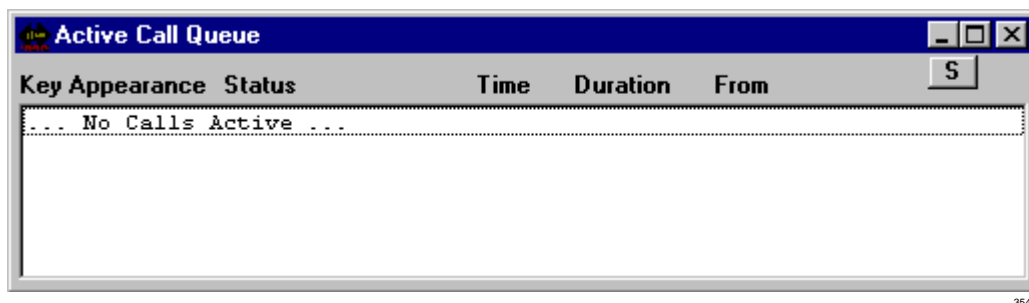

Figure 13-13 Active Call Screen
- ◆ Show Calls displays the Active Call Queue window (see Figure 13-13), which can be kept open while other activities and functions are performed.